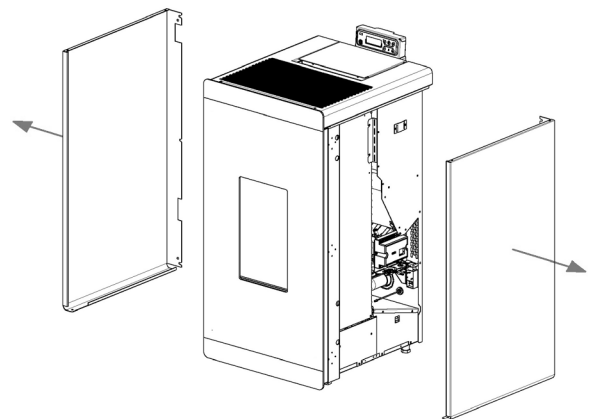

Fig. 71 - Remove side panels
- Remove the side panels (see **Fig. 71**).